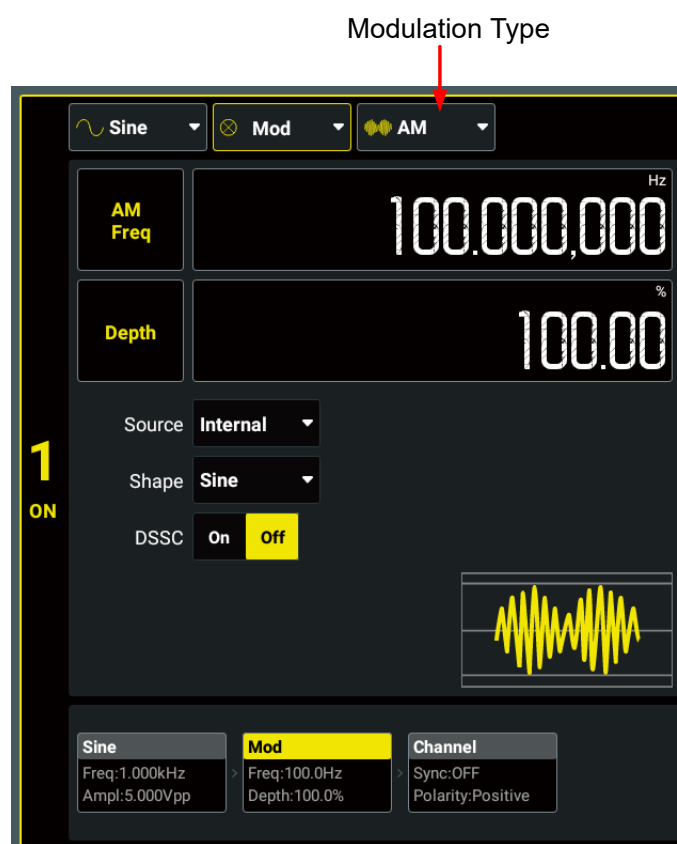

Figure 6.1 Modulation Setting Interface
In Amplitude Modulation (AM), a modulated waveform consists of a carrier waveform and a modulating waveform. The amplitude of the carrier waveform is varied by the instantaneous voltage of the modulating waveform. In the "Modulation Setting Interface" (Figure 6.1), click or tap the "Modulation Type" drop-down button to select "AM" and set its parameters.
In Frequency Modulation (FM), a modulated waveform consists of a carrier waveform and a modulating waveform. The frequency of the carrier waveform is varied by the instantaneous voltage of the modulating waveform. In the "Modulation Setting Interface" (Figure 6.1), click or tap the "Modulation Type" drop-down button to select "FM" and set its parameters.
In Phase Modulation (PM), a modulated waveform consists of a carrier waveform and a modulating waveform. The phase of the carrier waveform is varied by the instantaneous voltage of the modulating waveform. In the "Modulation Setting Interface" (*Figure 6.1*), click or tap the "Modulation Type" drop-down button to select "PM" and set its parameters.
With Amplitude Shift Keying (ASK), you can configure the instrument to "shift" its output amplitude between two preset values (called the "carrier amplitude" and the "modulation amplitude"). In the "Modulation Setting Interface" (Figure 6.1), click or tap the "Modulation Type" drop-down button to select "ASK" and set its parameters.